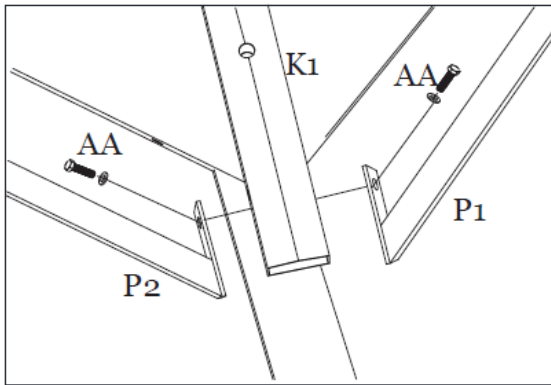

Figure 9-1
Step 9A: Attach the sides of the Roof Vent Frame by connecting the Short Side (P1) and Long Side (P2) to the Roof Vent Corner Support (K1) using Bolts (AA). See Figure 9-1.